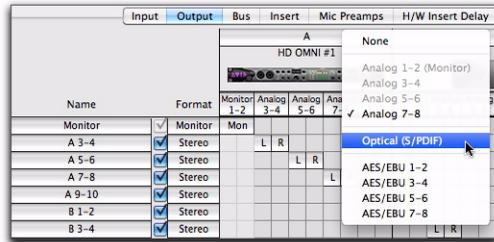

Figure 3. I/O Channel selector pop-up menu
- 3 Click the Output selector for an interface channel pair, just below an audio interface icon (see Figure 3 on page 10).